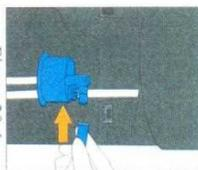

Figure 20-1
20. Remove protective cap from the SmartFlo™ water line and install onto the replacement bottle adaptor assembly (fig.20-1)